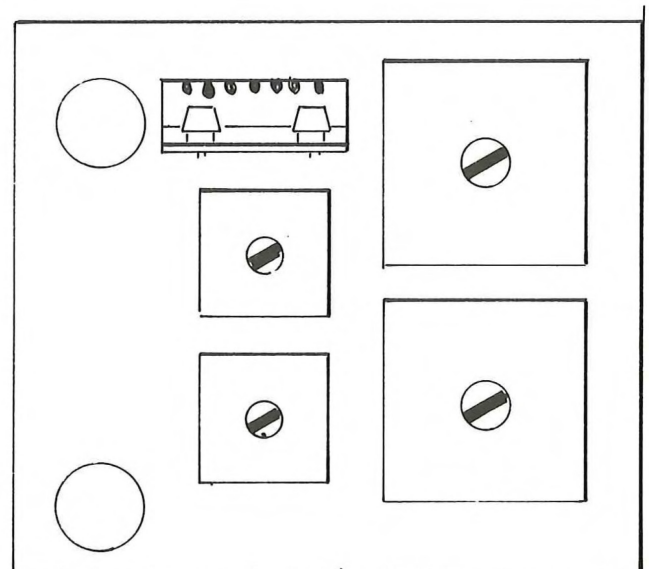

Fig. 4
- ( ) 4. Connect wires to the rectifier assembly as shown in Fig. 4.